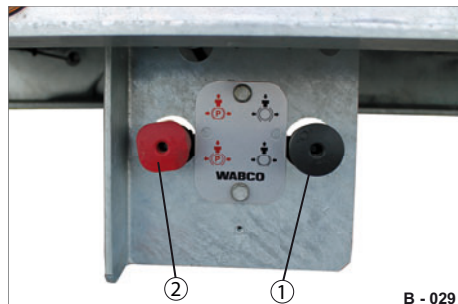

Fig. 43 Operating console: Brakes
- ▶ Engage the spring-loaded parking brake (Fig. 43/2). This brakes the trailer.